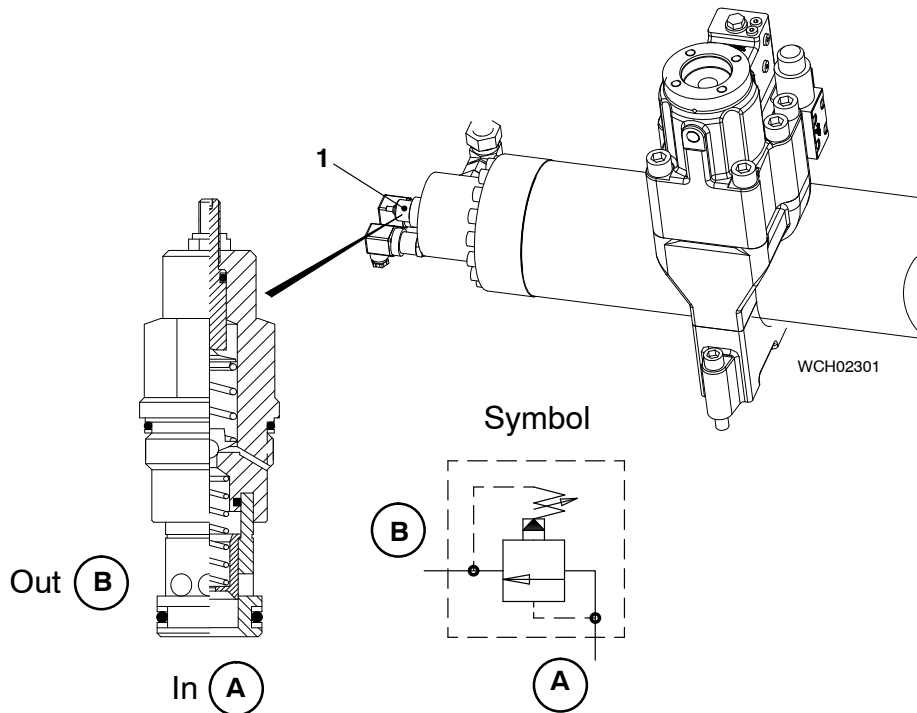

Fig. 4
Maintenance of the relief valve (1, Fig. 4) is not necessary.
- 3) Remove the HP servo oil pipes (12, Fig. 4) (refer to 8447-1).
- 5) Disconnect the electrical connections (7).
**Note: Step 8) is applicable only for the servo oil pump (6). The pipe (9) connects the servo oil service pump (1) to the servo oil pump (6).**
- 8) Remove the oil pipe (9) from the servo oil pump (6).